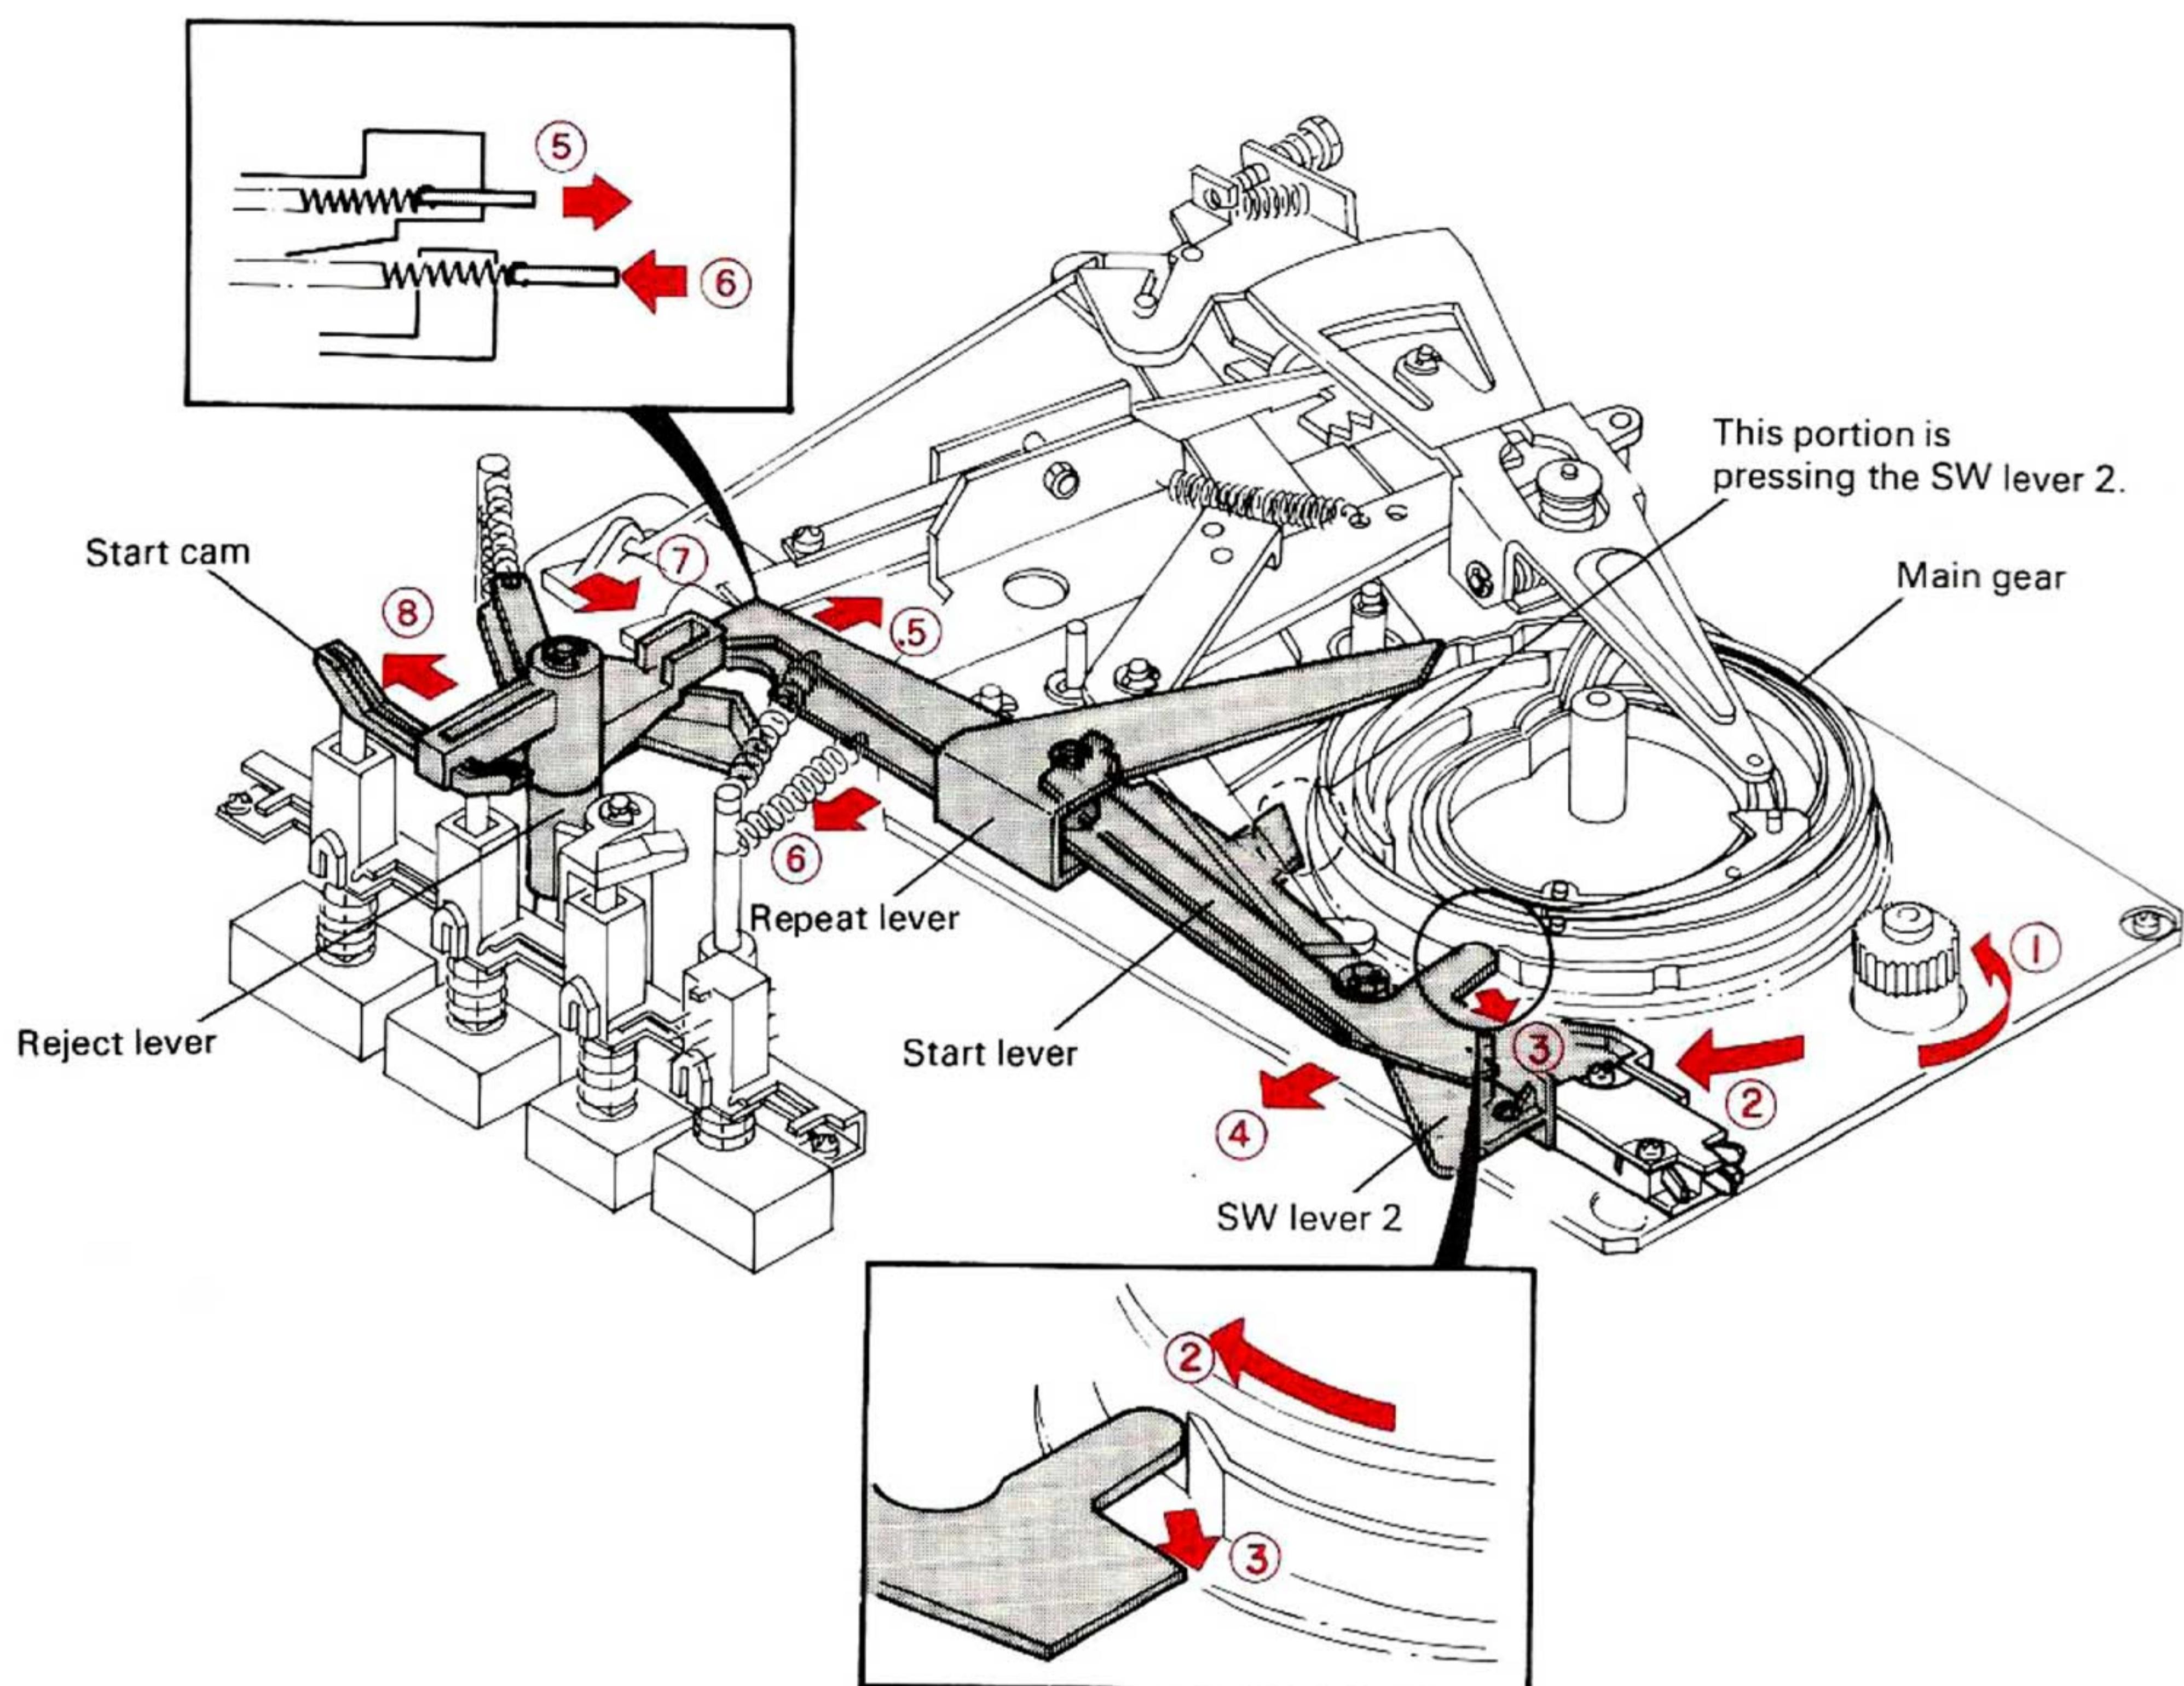
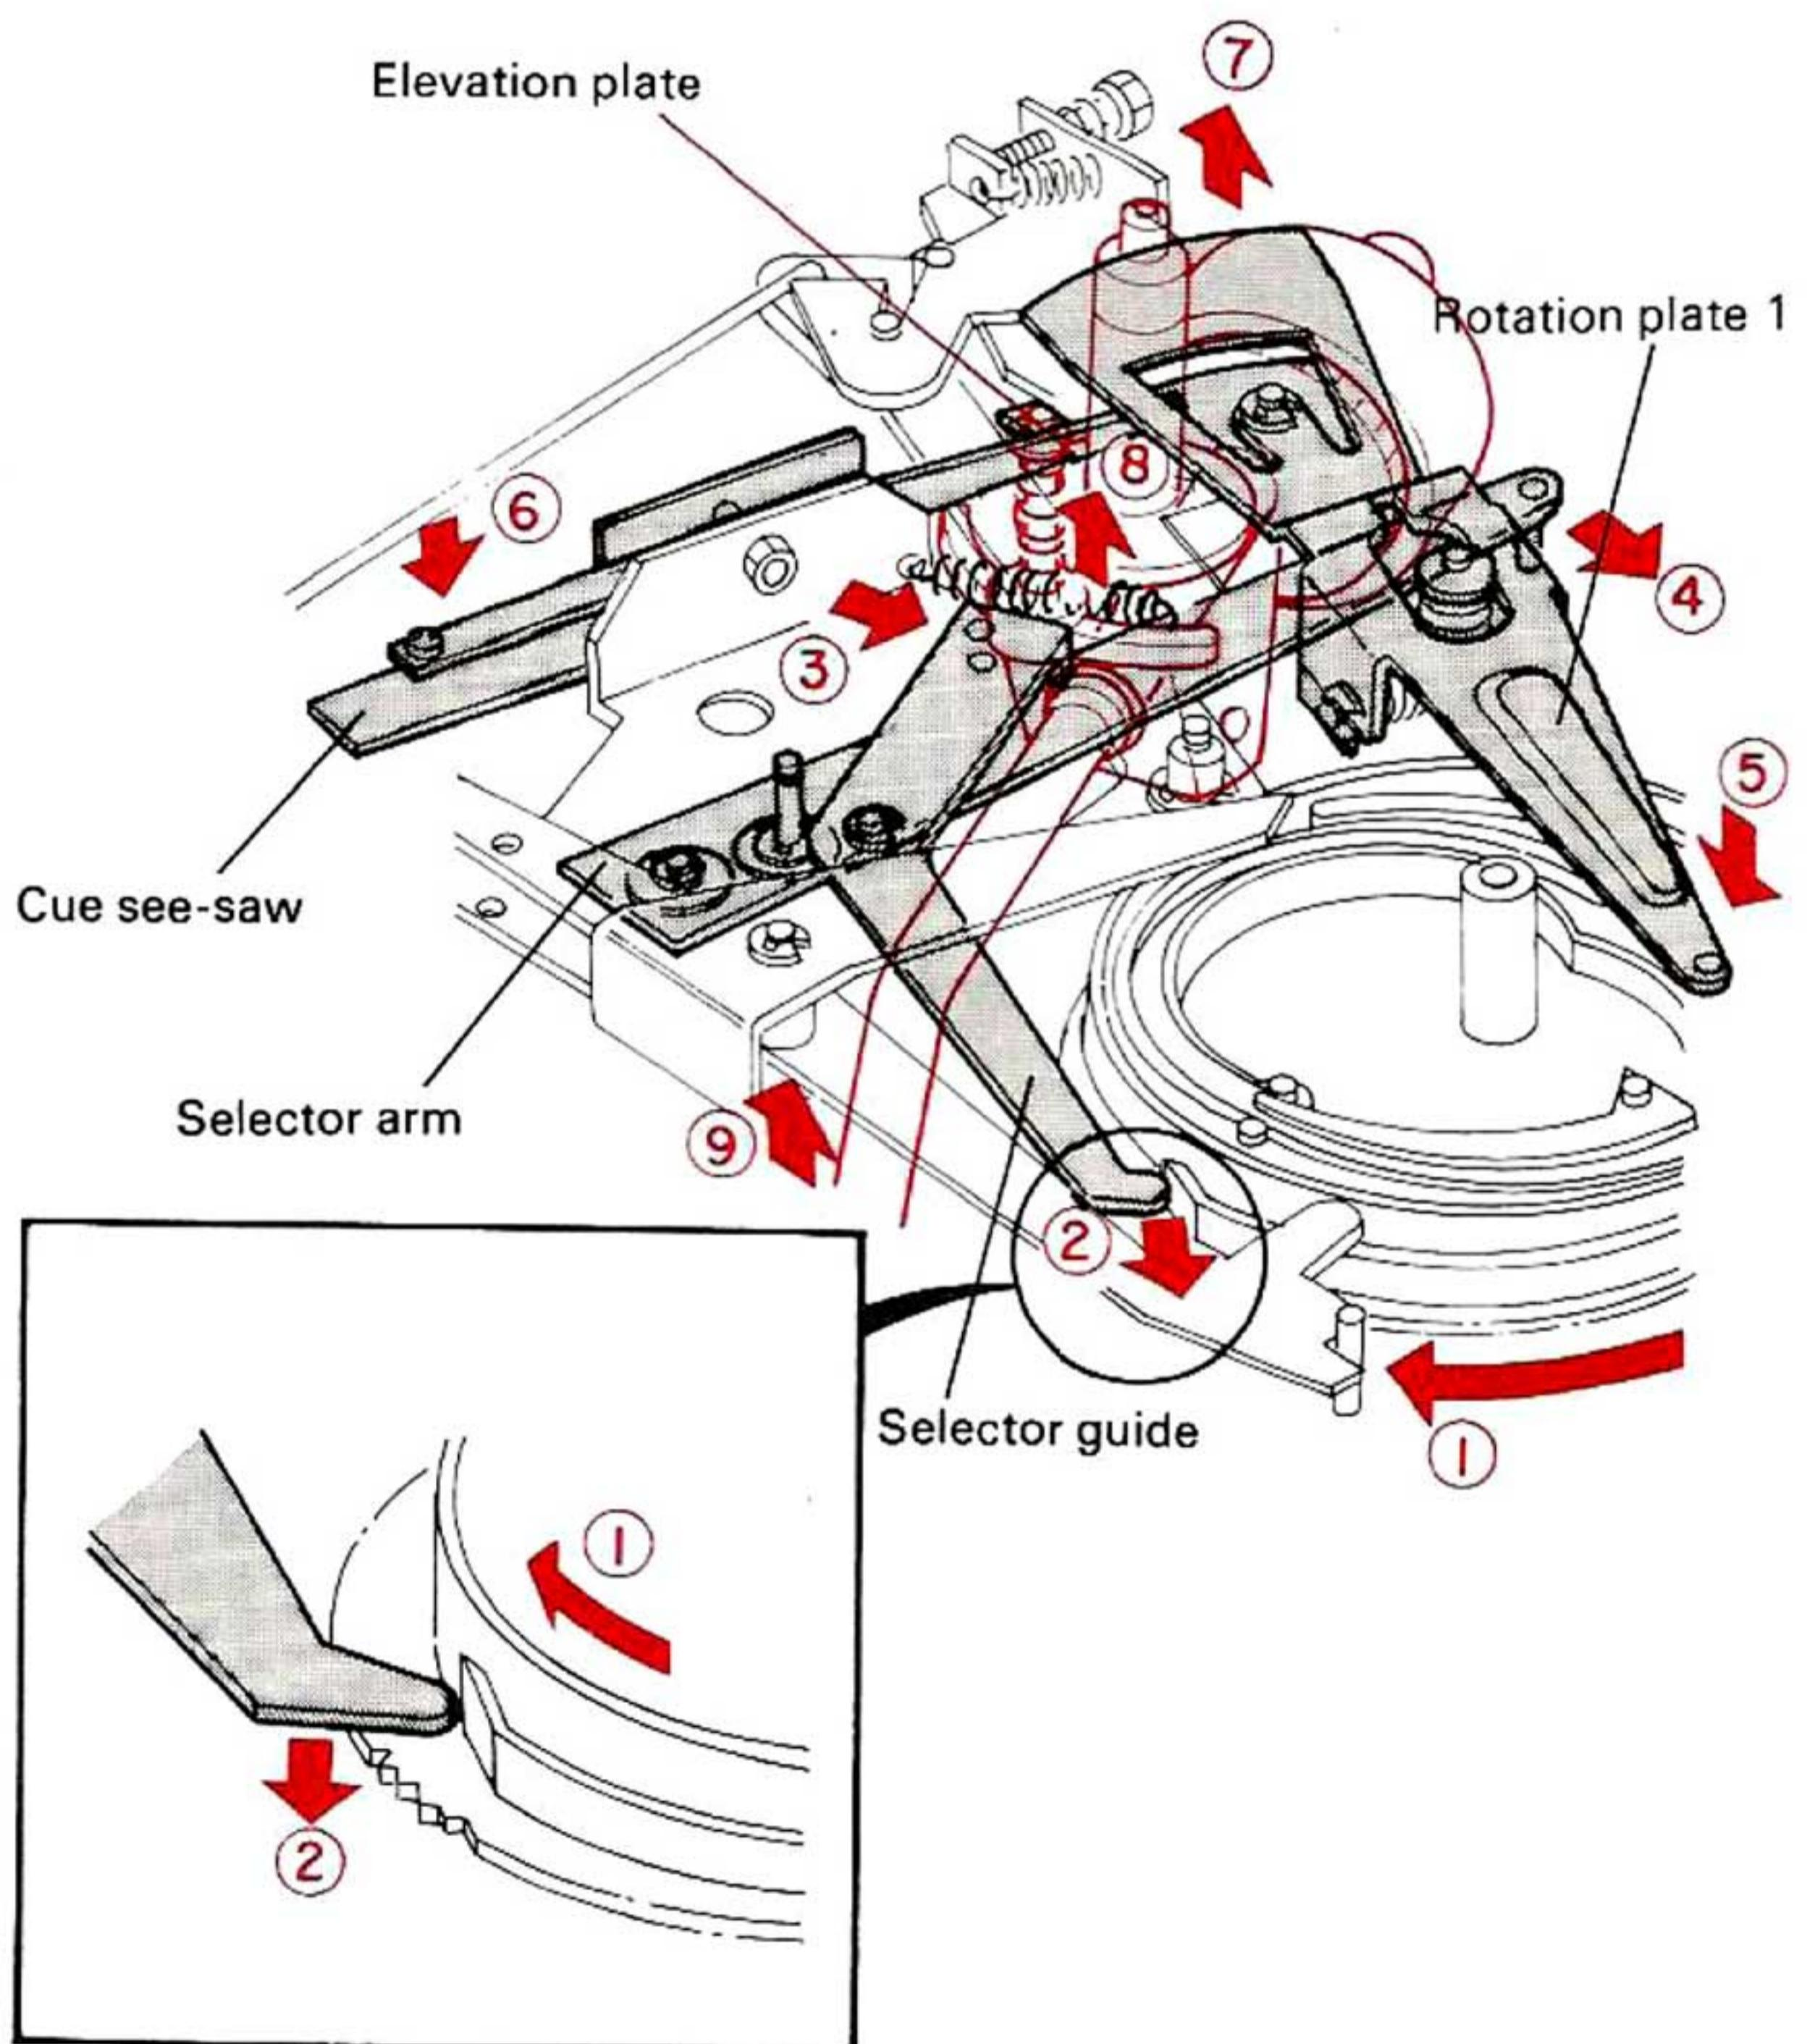

Fig. 7 Return of Start lever, Start cam and Reject cam
Fig. 8 Lowering of Tonearm and Return of Selector guide and Selector arm
When the main gear rotates further in direction ②, the outermost end of the main gear presses the start lever in direction ③ and the start lever turns in directions ④ and ⑤. As a result, the start cam is released and turned in directions ⑦ and ⑧ by the spring and the repeat lever moves in direction ⑥ to return the reject lever, start lever and repeat lever in their original positions (Fig. 7).
While the main gear is rotating, the SW lever is pushed outward by the part under the teeth of the main gear, so that the sensitive switch is kept turned ON even if the start lever moves in direction ④ (Fig. 7). When the outermost end of the main gear comes into contact with the selector guide, the selector guide is turned in directions ② and ③. Therefore, the selector arm is drawn in direction ④ to release the end of the selector arm from the travel base. As a result of this operation, the tonearm can move free from the mechanism (Fig. 8). As the groove of the main gear with which rotation plate is engaged becomes deep, rotation plate moves in direction ⑤. The cue see-saw moves in directions ⑥ and ⑦ under its own weight and the elevation plate which contacts the cue see-saw is lowered in direction ⑧, thus the tonearm descends in direction ⑨ (Fig. 8).